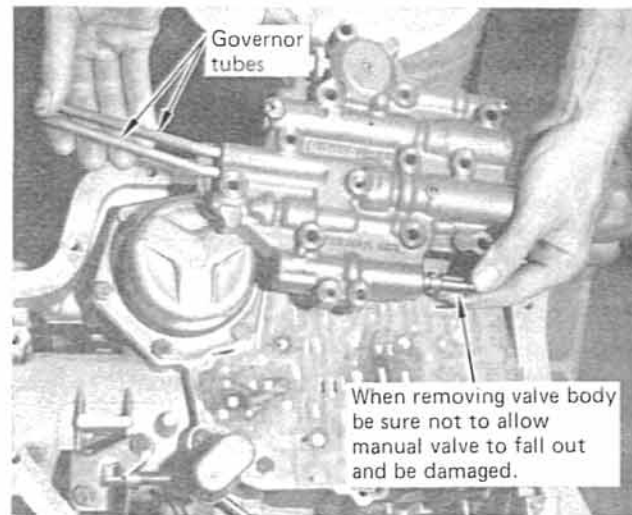

FIGURE 6
**STEP 4.** Remove valve body bolts. Three bolts are 1/4-20, the rest are 5/16-18. Keep drain pan underneath the valve body as there is an additional pint of fluid between valve body and case. Hold the valve body in place as you remove the last bolt. Remove the valve body and governor tubes together. (See Fig. 6) If your transmission has a lot of miles on it, the gaskets may be stuck. Free the valve body by carefully prying up with a screwdriver. Do not use excessive force. Hold on to the manual valve during removal so it does not fall out and get damaged. Set the valve body, valve body bolts and governor tubes aside. Discard any filters in the governor tube holes.